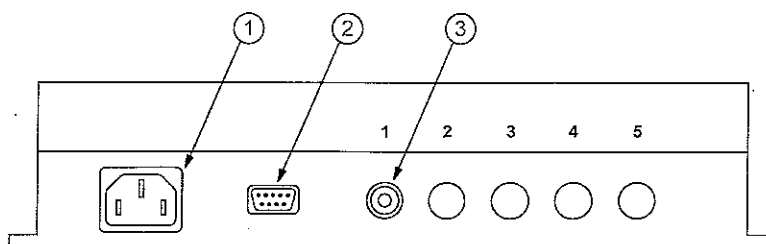

Figure A.6: Connections on the drive control
1. Connect the cable of the telescope drive to the motor connection **3** of the drive control in figure A.6.
2. Plug the hand set cable into the Sub-D jack **2** in figure A.6.